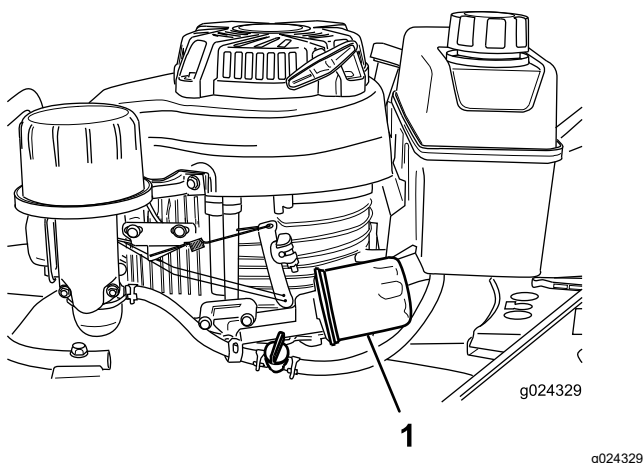

Figure 24
6. Place a rag under the oil filter (Figure 24) to catch any oil that may leak out as you remove the oil filter.